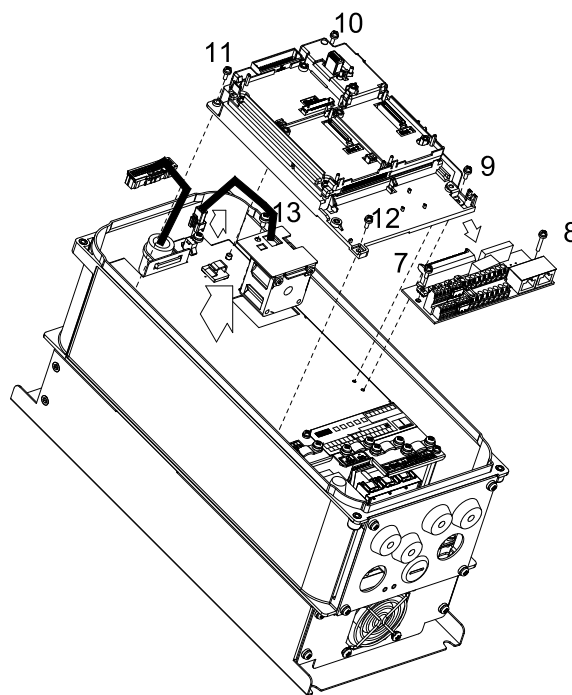

Figure 7-61
3. Loosen the screws 7–13 then remove the fan kit. (Refer to Figure 7-61)